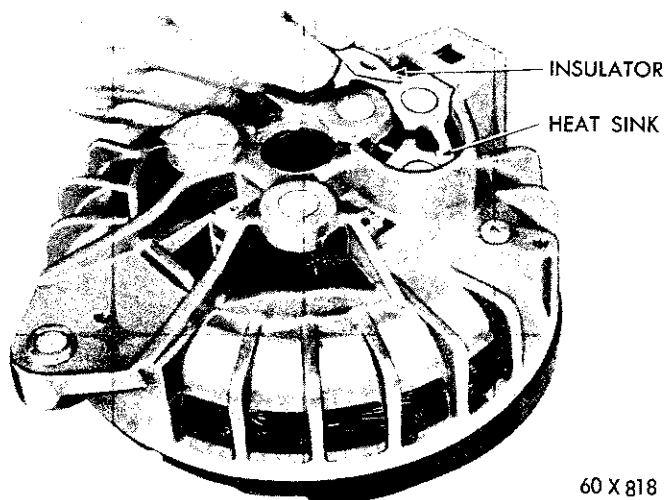

Fig. 35—Removing or Installing Heat Sink Insulator
(7) Remove the D.C. output terminal nuts and washers and remove terminal screw and inside capacitor (on units so equipped).
(8) Remove the insulator (Fig. 35).